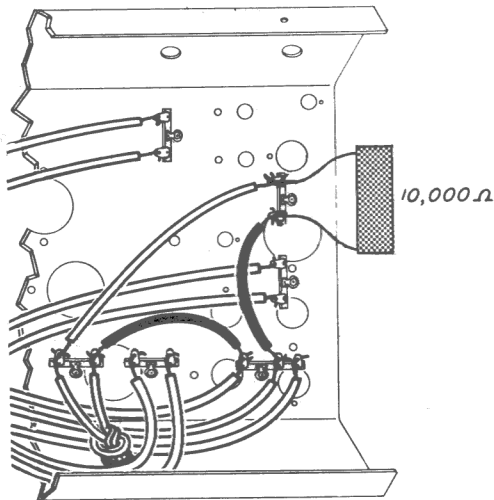

Fig. 14-14
Step 4. Check your circuit with Fig. 14-14. If it is correct, plug the line cord into the a-c outlet.